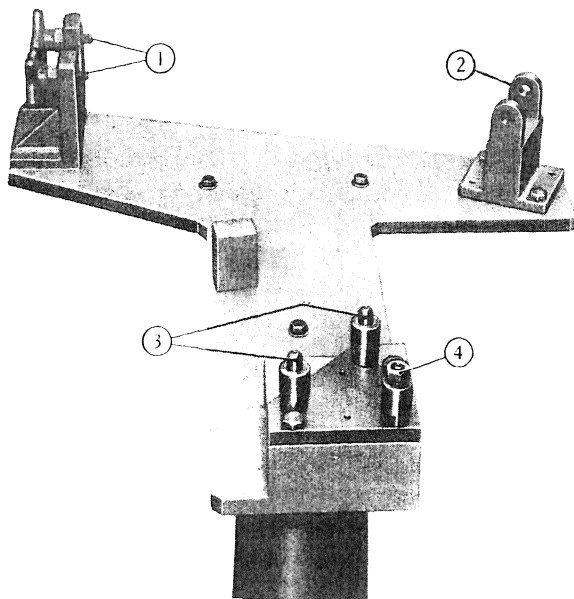

Fig. 307 - Fixture A. 66037, for swinging arm check and adjustment.
— Tighten the clamp screws (1, fig. 307) on wheel shaft.
— Couple swinging arm inner member to seat (2, fig. 307) of fixture alignment bracket.
— Fit swinging arm external support holes on pins (3) and stud (4) of fixture (fig. 307).